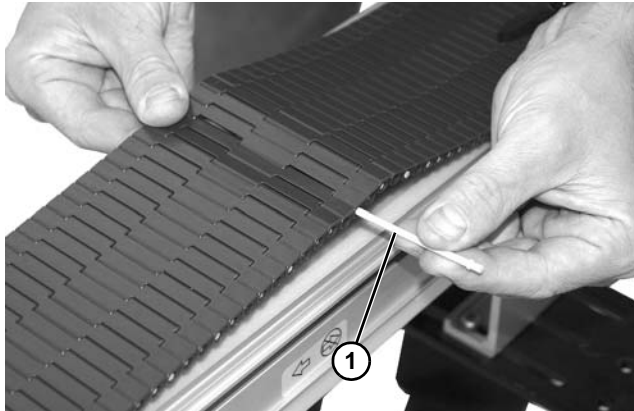

Figure 41
3. Remove rod (Figure 41, item 1) and separate belt.